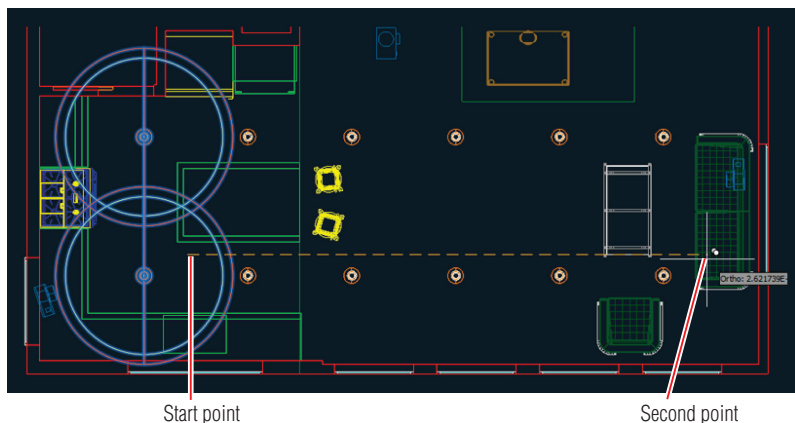

FIGURE 18.8 Copying spotlights in a rectangular array
12. Type `F` (for Fit) and press Enter. Move the cursor under the rightmost light fixture (see Figure 18.8), and click to specify the second point of the array. Press Enter to exit the ARRAY command.